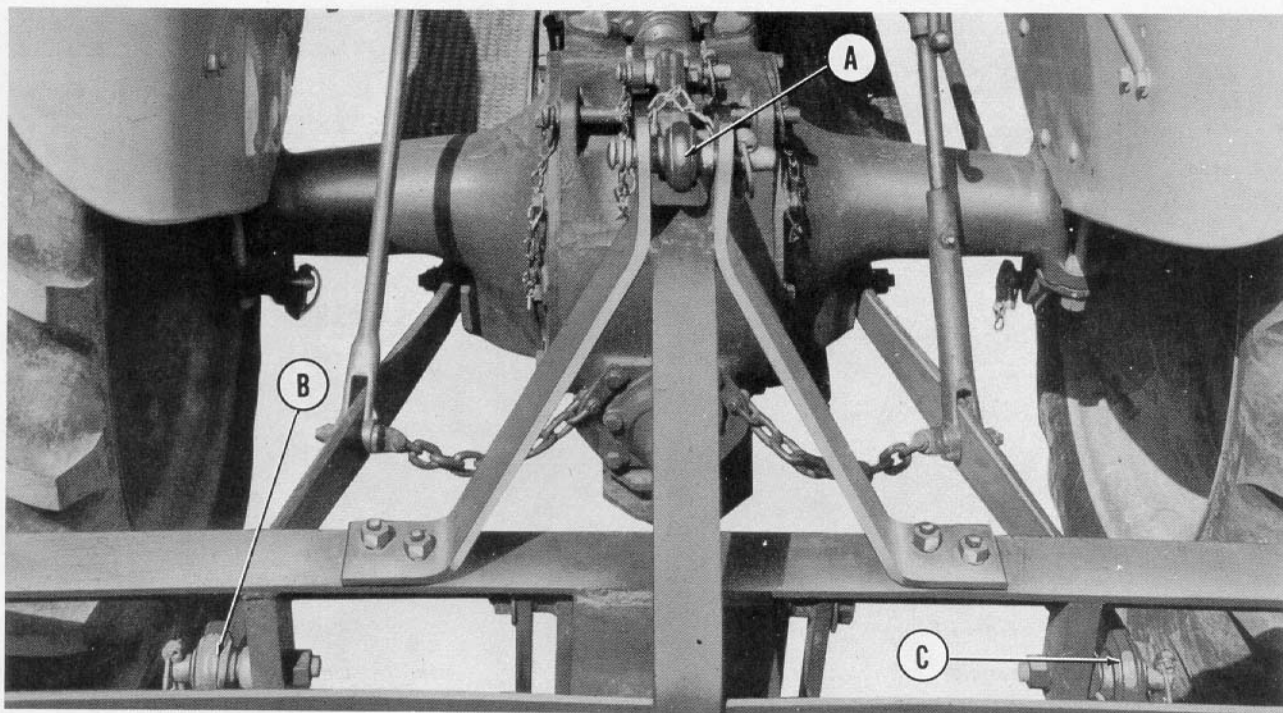

Figure 10
2. Attach the tractor lower left link (B), Figure 10 and lower right link (C) to the harrow. Secure with linch pins.
3. Attach the tractor top link (A) to the disc top link assembly and to the tractor main control spring yoke. Secure with linch pins.